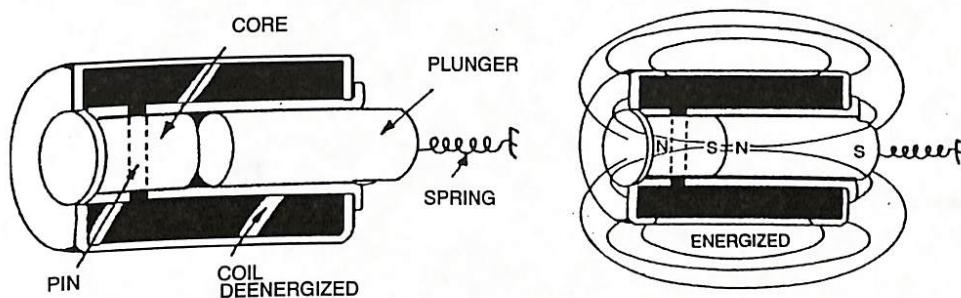

Figure 6. Solenoid Operation
**Construction.** Figure 6 is a cutaway view of a solenoid showing the solenoid action. A solenoid is an electromagnet formed by a conductor wound in a series of loops in the shape of a spiral. Inserted within this coil is a soft-iron core and a movable plunger. The soft-iron core is pinned or held in a stationary position. The movable plunger (also soft-iron) is held away from the core by a spring when the solenoid is de-energized.
As shown in Figure 6, the de-energized position of the plunger is partially out of the coil due to the action of the spring. When the coil is de-energized, the plunger returns to this normal position. The effective strength of the magnetic field on the plunger varies according to the distance between the plunger and the core. The strength of a magnetic field is inversely proportional to the distance from the core. As distance increases, the magnetic field strength decreases.